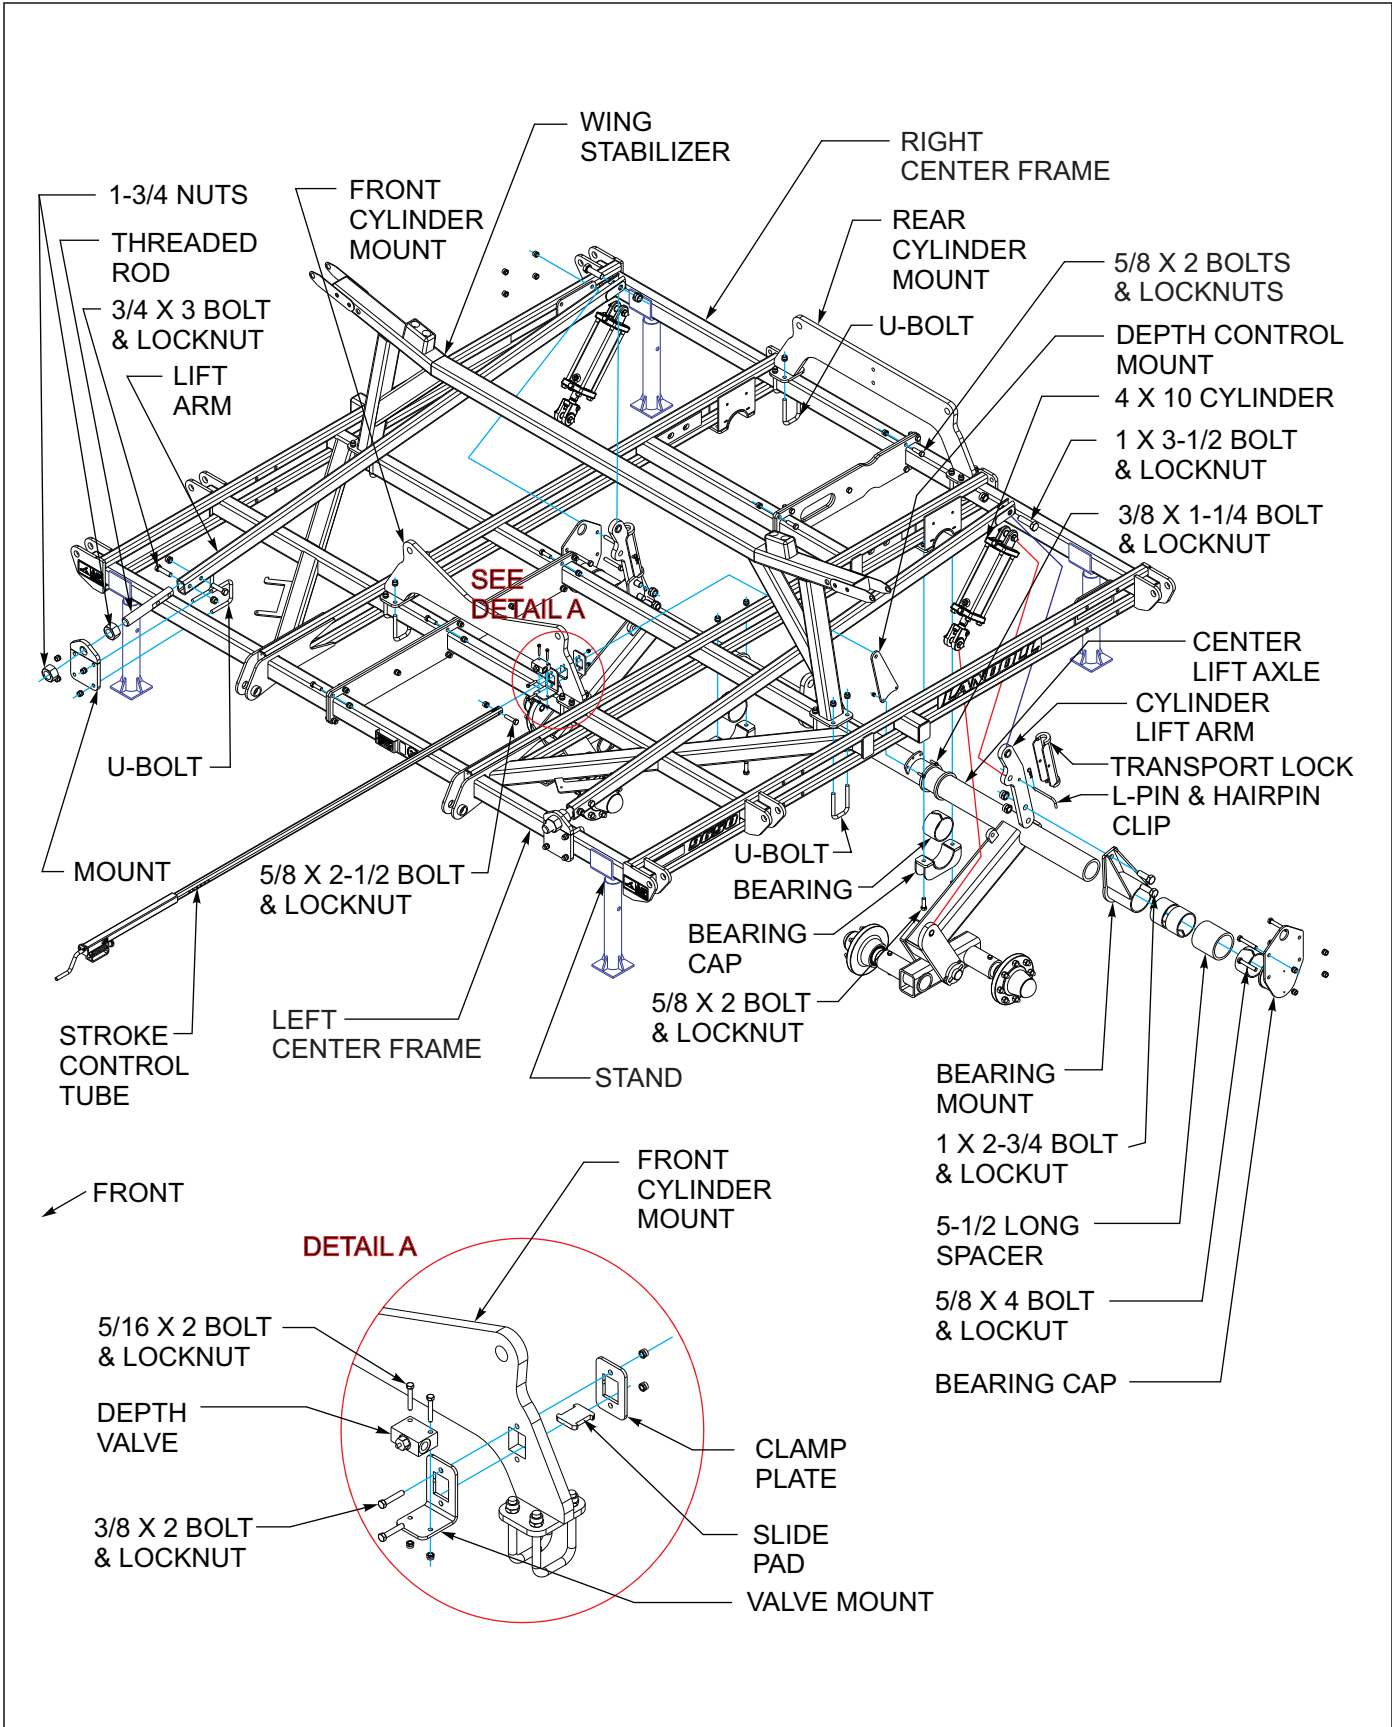

Figure 3-1: 9600 Center Frame Assembly
1. Models 9630-30', 32' and 34' place the two center frame halves next to each other on the ground and bolt together using 5/8 x 2" bolts and locknuts See Figure 3-1.